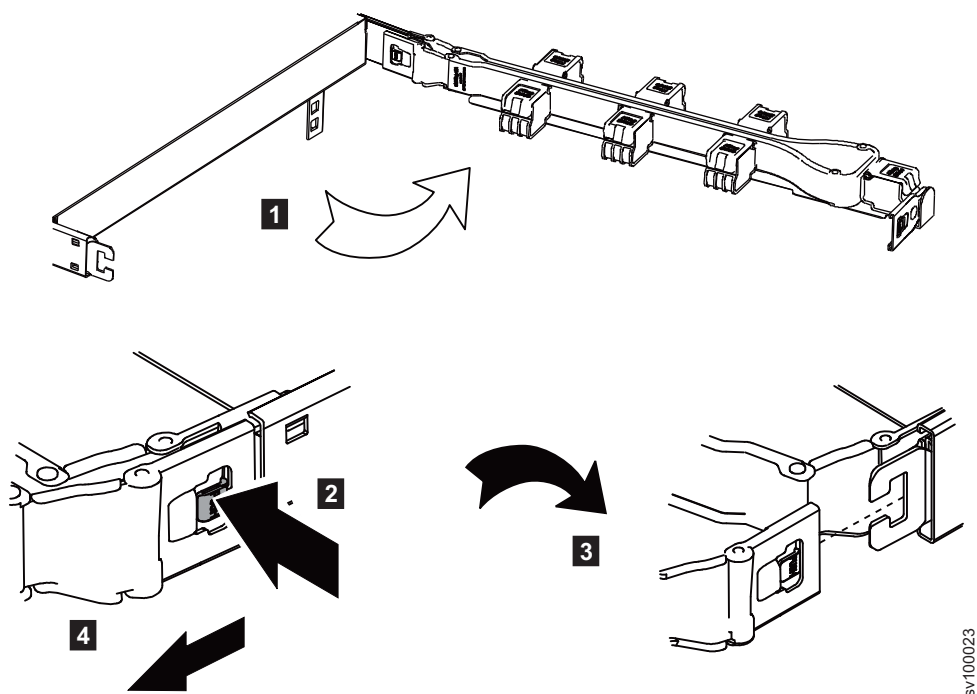

Figure 7. Removing the outer member of the cable-management arm
4. Release the outer member, as shown in Figure 7.